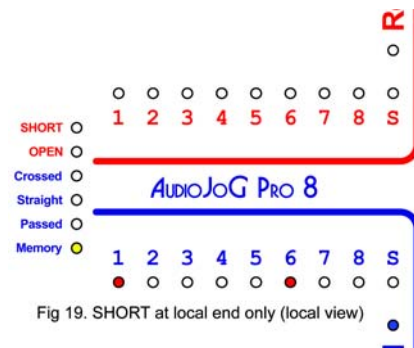

Fig 19. SHORT at local end only (local view)
a) A short was found, at the local connector, where no connection existed before (Fig19).